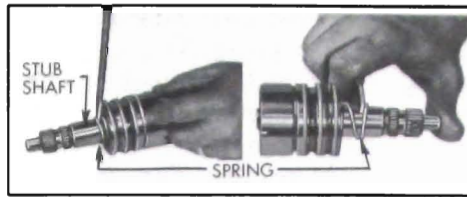

Figure 8-48—Removing Valve Spool Spring
2. Remove valve spool spring by prying on small coil with a small screw driver to work spring onto bearing surface of stub shaft. See Figure 8-48. Slide spring off shaft. Be very careful not to damage stub shaft surface.